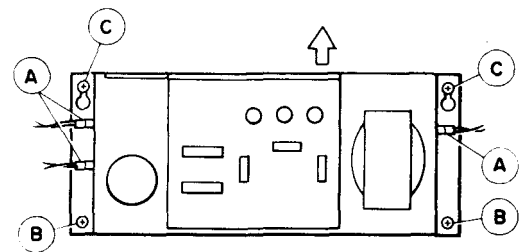

Figure 13.
- 32) Disconnect the three connectors at (A). (See Figure 13.)